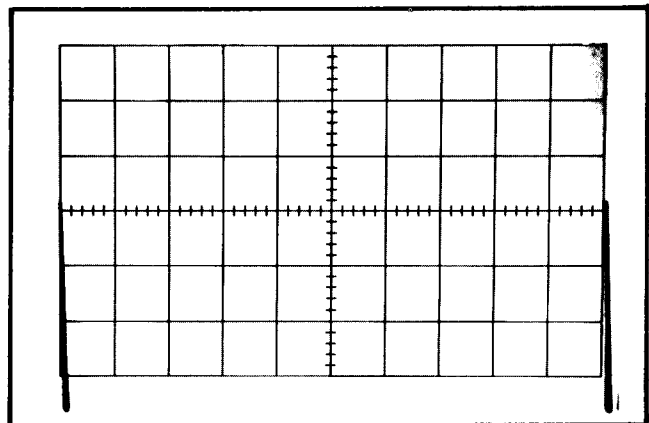

Fig. 5-20. Typical CRT display when checking delayed-sweep accuracy.
- b. CHECK—Using the A TIME/DIV switch, B TIME/DIV switch and time-mark generator settings given in Table 5-4, check delayed sweep accuracy within the given tolerance. First set the DELAY-TIME MULTIPLIER dial to 1.00 and rotate the dial until the sweep starts at the top of the second marker (see Fig. 5-20). Note the dial reading and then set the dial to 9.00 and rotate slightly until the sweep starts at the top of the tenth marker. DELAY-TIME MULTIPLIER dial setting must be 8.00 divisions higher, + or - the allowable error given in Table 5-4.